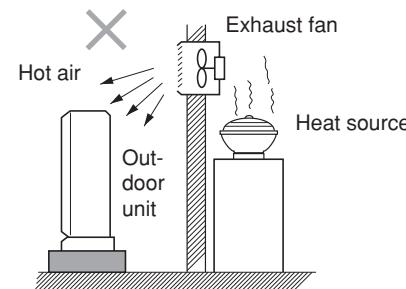

Fig. 2-6
- heat sources, exhaust fans, etc. (Fig. 2-6)